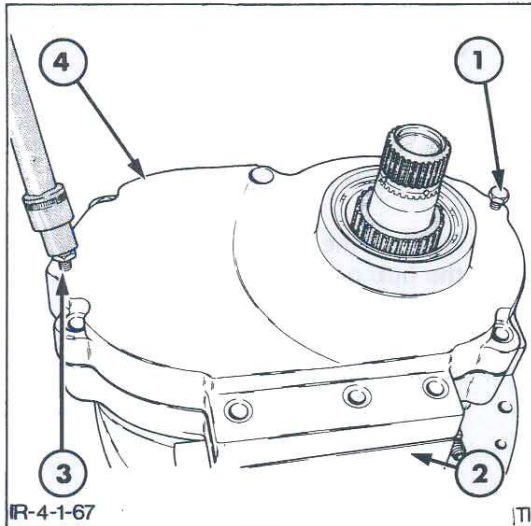

Figure 67
1. Install the two jacking bolts, previously used to remove the oil distributor assembly from the transmission case, into the cover bolt holes, Figure 67. Tighten the two bolts equally until the front cover is released from the housing. Remove the two bolts.